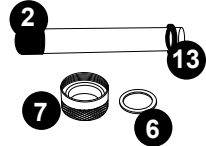

Figure 6
6. Remove the quartz seal compression nut (7) by turning it **counterclockwise**, Figure 3. Use a pair of channel-lock pliers if needed, Figure 5. You will notice that there is a stainless steel compression washer (6) that slides over the quartz tube. Save the washer (6) for later use, Figure 6. There is also a black seal ring (13), grasp the black seal ring; slowly and carefully remove the quartz tube.